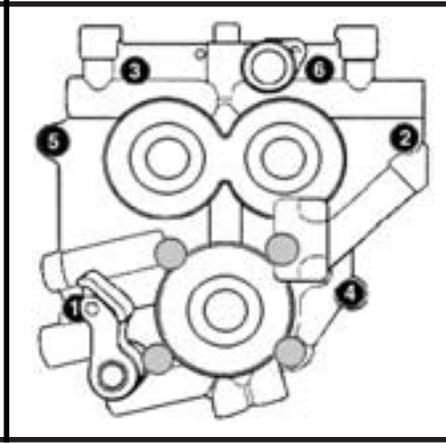

Figure 2
12. Following sequence shown, alternately loosen and remove cam support plate bolts. **See Figure 2.**
8. Loosely install support plate screws with a drop of Loctite Threadlocker 242 or 243 (blue). Alternately tighten screws to 95 in-lbs. torque following sequence shown. **See Figure 2.**
CAUTION - Support plate screws that pass through alignment dowels (See positions 1 & 2 in Figure 2) can be easily stripped when applying maximum 120 in-lbs. torque as recommended by H-D.